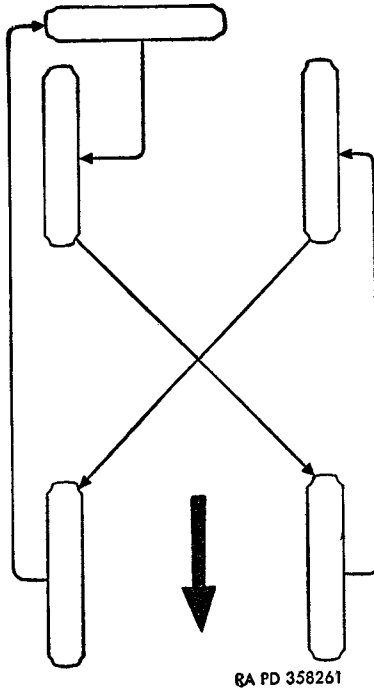

Figure 169. Tire rotation plan.
- (1) Replace any tire with noticeable cut on tread or side wall. Return old tire to ordnance maintenance unit for repair. If uneven wear is indicated, check toe-in adjustment (par. 224). If incorrect toe-in is not the cause, report to ordnance maintenance personnel.
- (2) Check pressures when tires are cold. Dismount any tire showing unusual pressure loss and examine tire tube for cause. Repair tire tube or replace tube or tire if necessary.
- (3) Inflate all tires to equal pressures, as unequal pressures will affect steering and braking adversely. Inflate tires to pressures designated in paragraph 248*b*. Under inflated tires are easily damaged. Install all valve caps to prevent air loss.
c. Tire Rotation. To maintain equal wear, rotate tires in accordance with the tire rotation plan shown in figure 169 at intervals of approximately 2,000 miles, if the tactical situation permits.